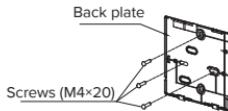

Fig. 3-5
- For surface mounting, fasten the back plate on the wall with the 3 screws (M4x20) and plugs. (Fig. 3-5)